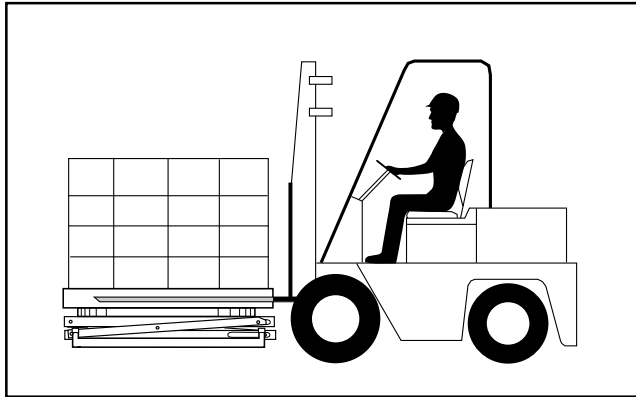

Fig. 7
1. Place the load on the lift, then lower the fork lift. Before removing the load, be sure the unit is carrying the weight, not the fork lift. See Fig. 7.